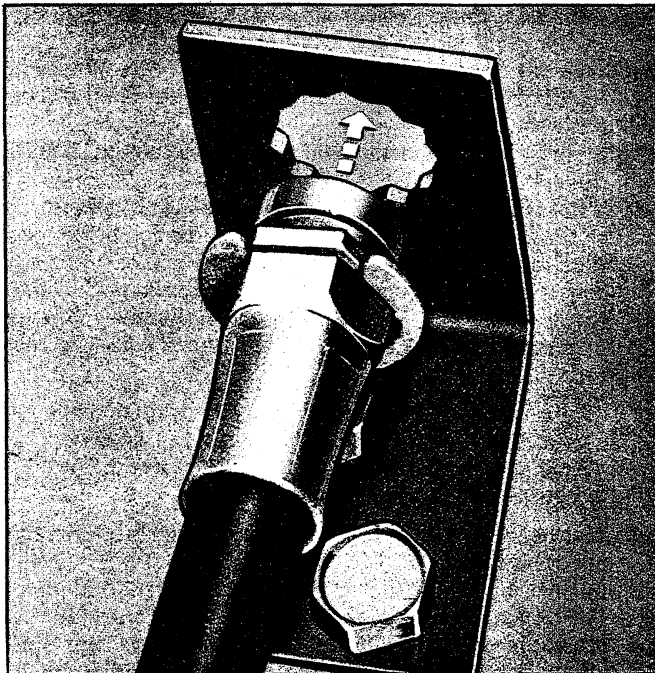

Fig. 10—Brake Line Support Bracket
3. With weight of car on wheels and suspension in normal position (front wheels straight ahead) pass female end of hose through support bracket, allowing hose to seek its own position. Insert hex of hose fitting into the 12 point hole in support bracket in position which induces least twist to hose (fig. 10).